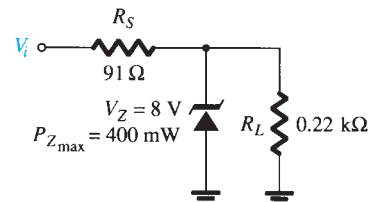

FIG. 2.188
*44. For the network of Fig. 2.188, determine the range of V_i that will maintain V_L at 8 V and not exceed the maximum power rating of the Zener diode.
52. Perform a general analysis of the Zener network of Fig. 2.188 using PSpice Windows.